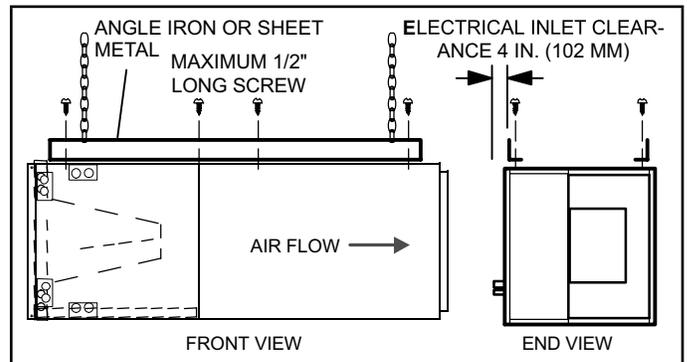

FIGURE 6. Suspending Horizontal Unit
- If the unit is suspended, the entire length of the cabinet must be supported. If you use a chain or strap, use a piece of angle iron or sheet metal attached to the unit (either above or below) to support the length of the cabinet. Use securing screws no longer than 1/2 inch to avoid damaging the coil or filter. See figure 6. Use sheet metal screws to connect the return and supply air plenums as required.
- 12 - If suspending the unit, it must be supported along the entire length of the cabinet. If using chain or strap, use a piece of angle iron or sheet metal attached to the unit (either above or below) so that the full length of the cabinet is supported. Use securing screws no longer than 1/2" to avoid damage to coil or filter, as illustrated in figure 6. Connect return and supply air plenums as required using sheet metal screws.